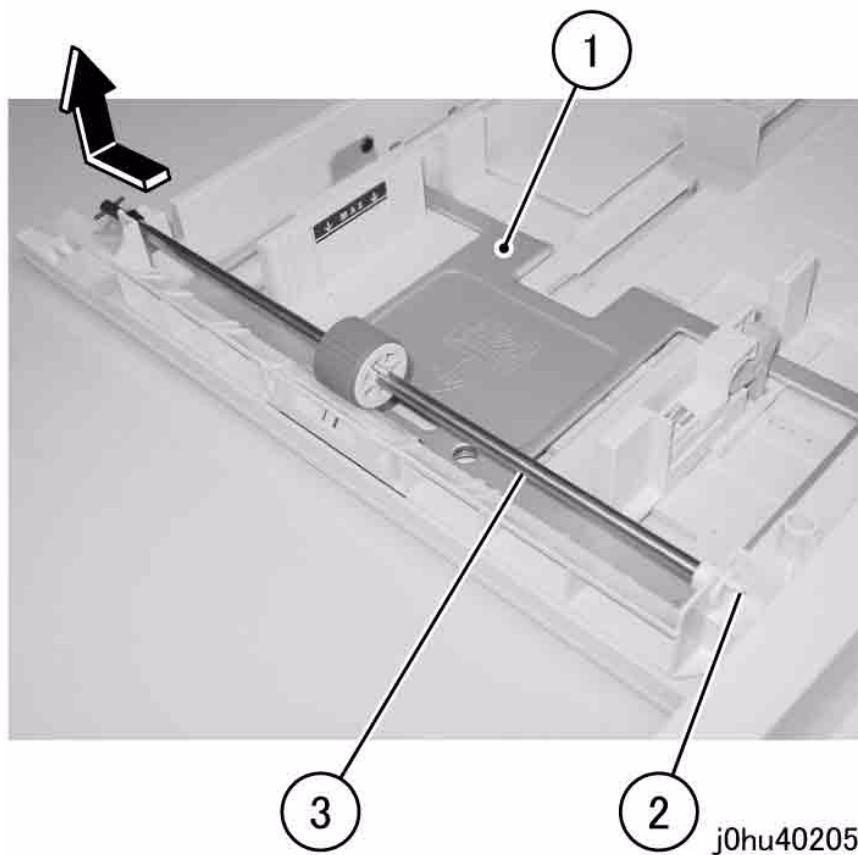

Figure 1 Remove the Feed Shaft
3. Remove the Feed Shaft (Figure 1).